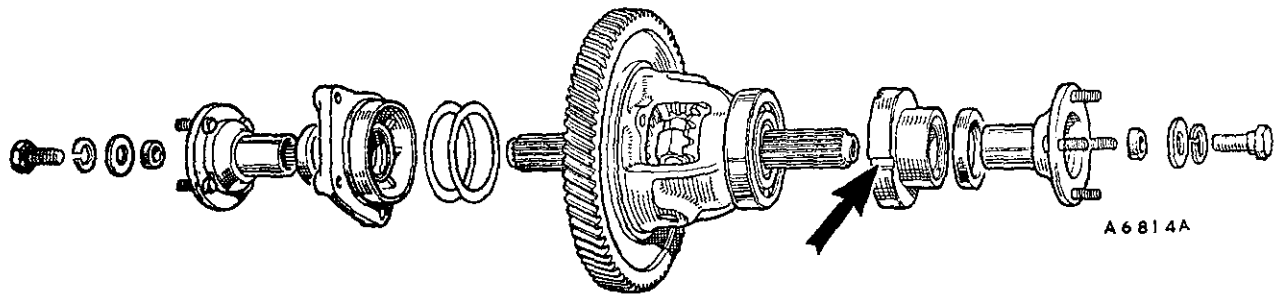

Fig. Fa.54
- (14) Refit the differential unit into the transmission case and push the assembly towards the converter, with the slot in the spacer in alignment with the dowel in the transmission case (Fig. Fa.54). Fit a new joint washer coated with Hylomar jointing compound. Ensure that the oil seal is pressed squarely against the face of the spacer and refit the differential housing, fit new locking plates, and lightly tighten the securing nuts.